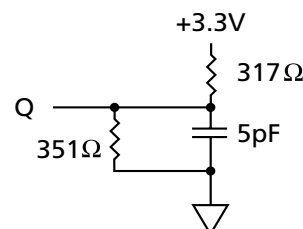
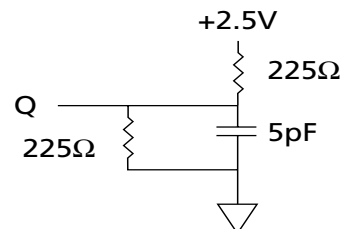

Figure 2
Figure 4
4. This parameter is measured with output loading as shown in Figure 2 for 3.3V I/O and Figure 4 for 2.5V I/O.